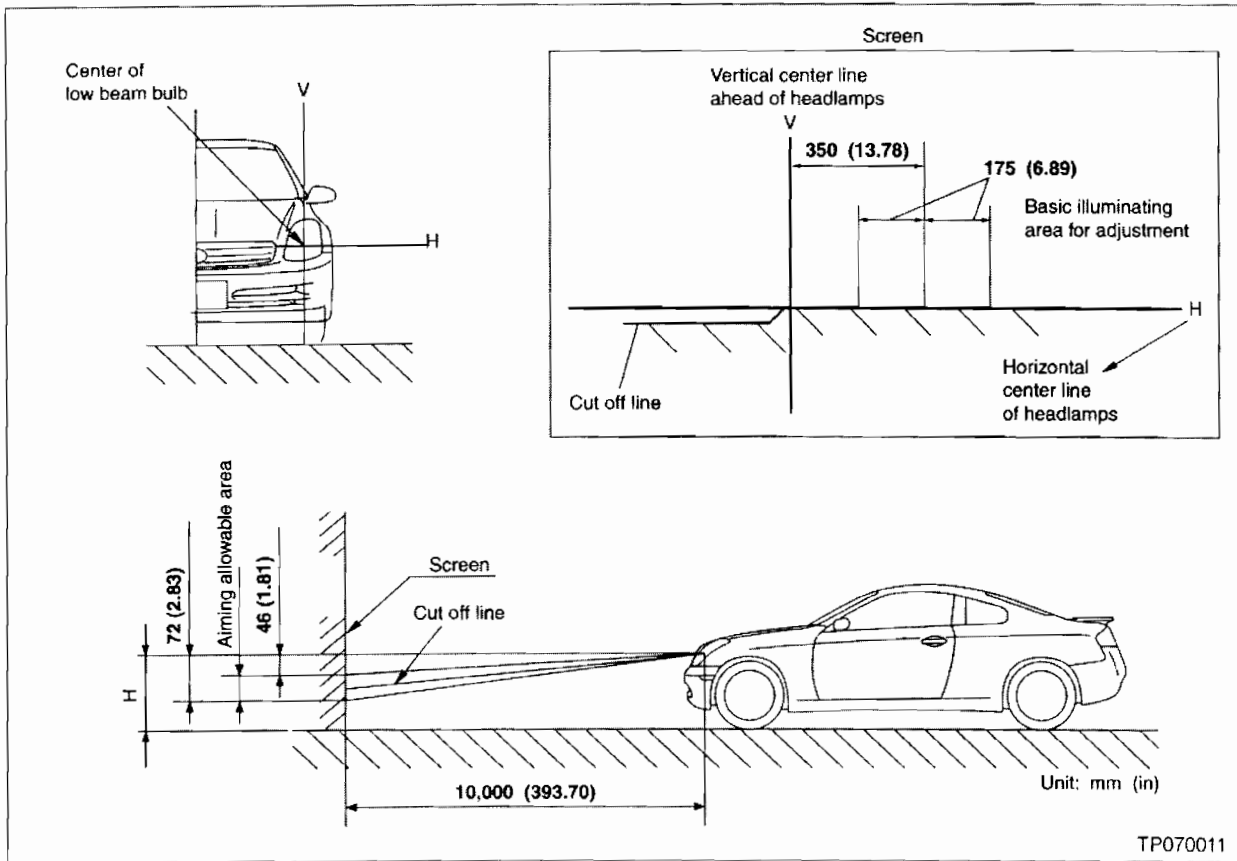

Figure 14
17. Check headlight adjustment (aim) as shown in Figure 14.